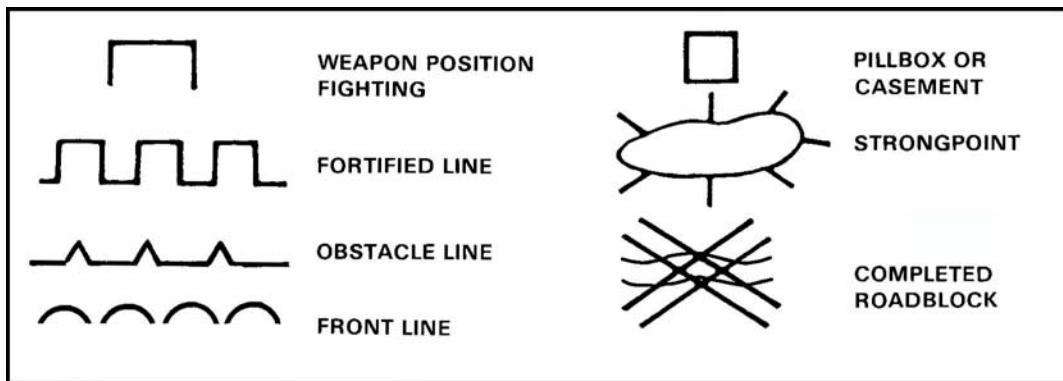

Figure 11. Fortification and obstacle symbols.
j. Fortification and obstacles (Figure 11).